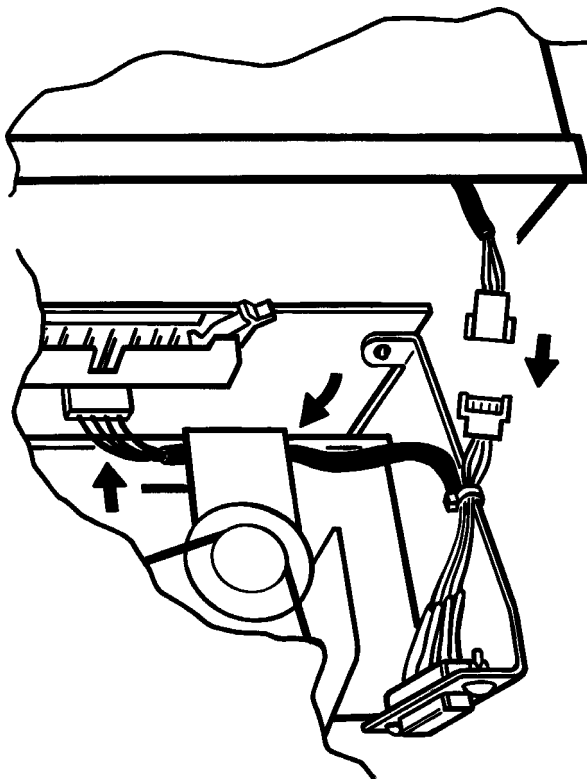

Figure 4.7.3f D-type harness routing
16. Return the writing system to the case, ensuring that all previous connections are re-made, and that the new connection is made between the memory card driver and the supplementary harness to the D-type plug, as in figure 4.7.3f.